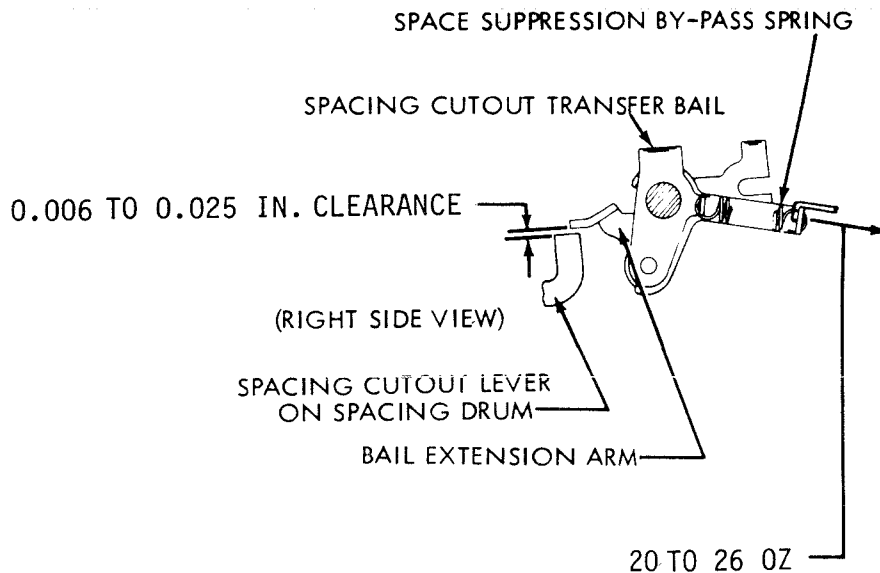
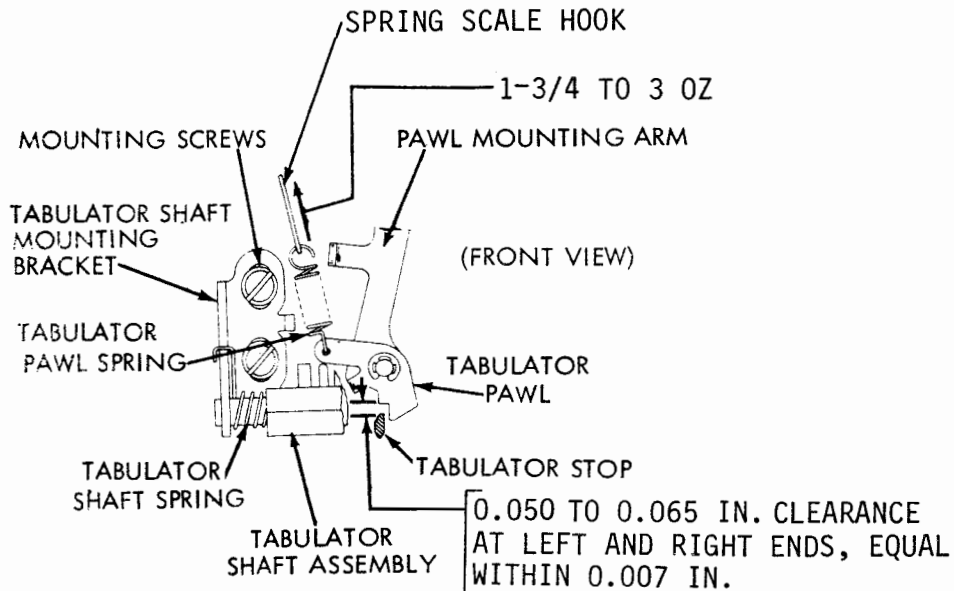

Figure 6-273. Right Margin and Space Suppression Bypass Spring
Figure 6-274. Tabular Shaft Mounting Bracket and Tabulator Pawl Springs
(a) Refer to figure 6-273.
- (a) Refer to figure 6-273.
(14) Tabulator Shaft Mounting Bracket. Adjust tabulator shaft mounting bracket as follows:
- (a) Refer to figure 6-274.
(a) Refer to figure 6-274.